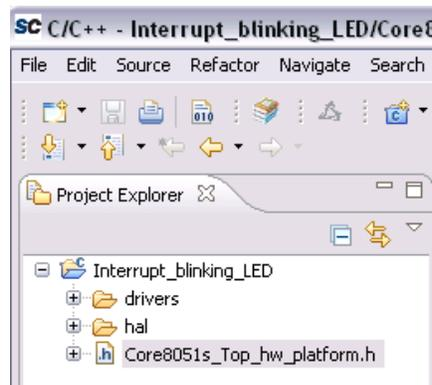

Figure 24 Project Explorer
- The project explorer is displayed, as shown in Figure 24.